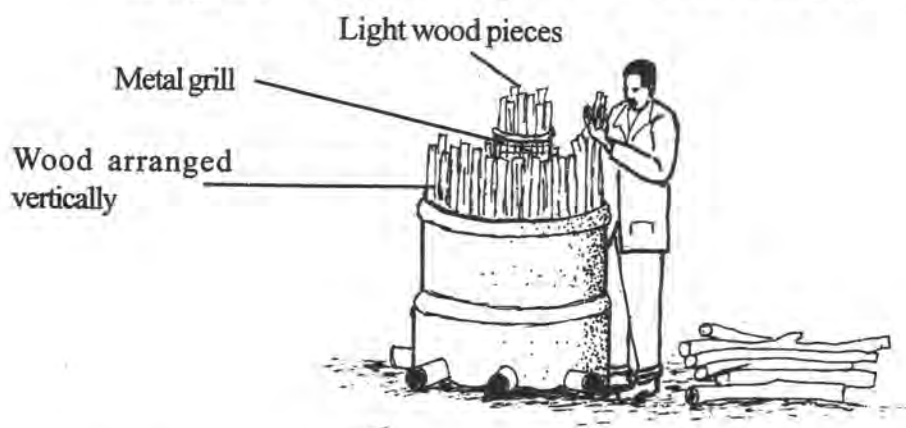

Figure 3.3: Wood is closely charged into the compartments of the portable metal kiln in a vertical position
- Pack the wood closely (Figure 3.3) with the larger diameter pieces placed alongside the metal grill at the centre of the kiln to expose them to higher carbonisation temperature when the kiln is lit.